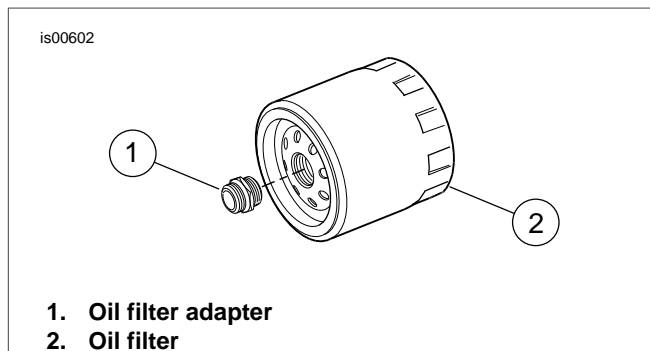

Figure 1. Oil Filter and Adapter
1. See Figure 1. Remove the spin-on oil filter (2) and oil filter adapter (1) from oil filter mount location. Clean the oil filter mounting area thoroughly. Discard oil filter adapter.